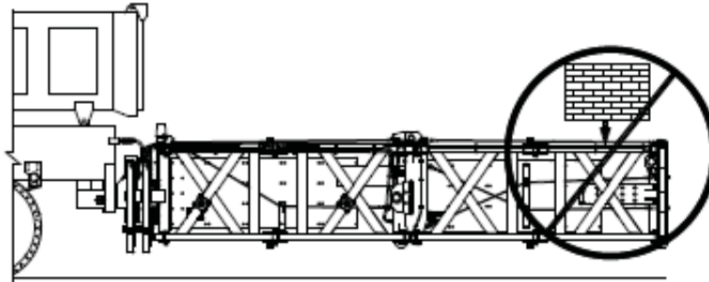

Figure 5
4. The SS180 TMA[®] is intended to support its own weight and dissipate the kinetic energy of errant vehicles per NCHRP 350 criteria. Do not drag the TMA or place anything on its top or damage will result. Do not sit, stand or lean on any part of the TMA (See Figures 5 & 6).